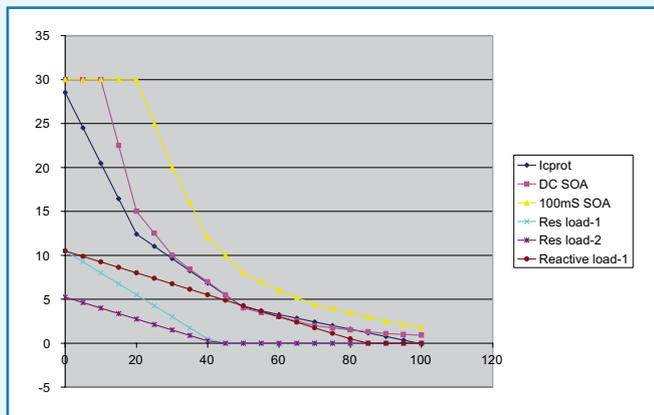
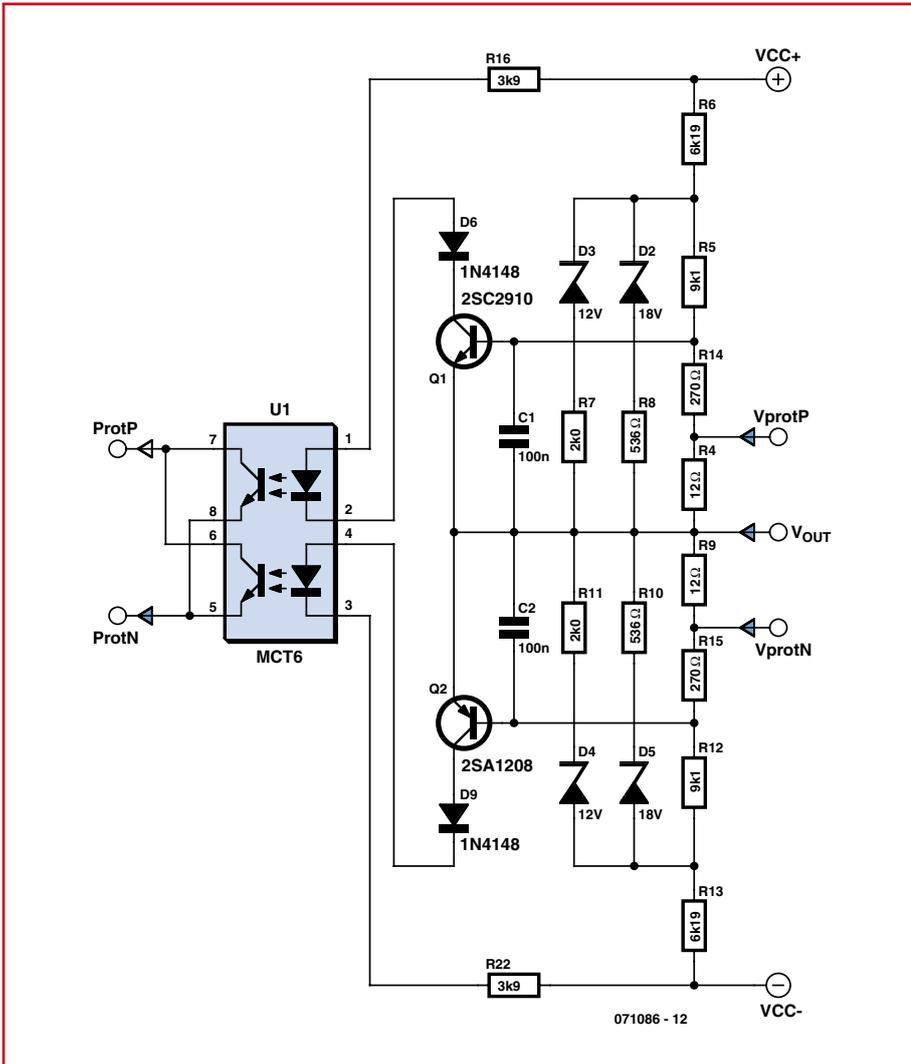

Figure 1. SOA, load lines and protection locus. See text for explanations.
Figure 2. Safe Area Protection system.
The second main part of the protection system is to guard the output devices against excessive low impedance loads and short-circuits. Michael Kiwanuka has written a very informative article on Safe Operation Protection in audio power amplifiers [1]. My own protection circuit is different, but was inspired by Mike's design and has many things in common with it. **Figure 2** shows the circuit. The circuit receives two types of information from the power amp: the I_c in the output devices through V_{protP} and V_{protN} (via connector J7 in **Figure 1**): this actually is the voltage across the emitter resistors. Secondly, through the components connected to the supply and V_{out} a voltage is developed that represents V_{ce} of the output devices. (There is a separate part to this article that explains the circuit in detail and how
Figure 1 shows the various curves that we need to develop the SOA protection for two pairs of output devices. I_c (A) is on the vertical scale, V_{ce} (V) is on the horizontal scale. When V_{ce} is zero, it means that V_{out} is equal to V_{supply} . In practice, there will always be a few volts V_{ce} remaining at maximum output, but we will disregard that for the moment. The cyan curve shows the safe combinations of DC I_c and V_{ce} for two parallel STD03 Sanken Darlington devices used in this amplifier. The yellow curve shows this for loads lasting no longer than 100 ms. That means that combinations of I_c and V_{ce} that fall below and to the left of the curve, are safe, but as soon as the curve is crossed, the protection system should activate. Since music is impulsive and not DC, one could argue that protection for the yellow curve would be sufficient, but if we use the cyan curve we have an additional safety factor and we also are protected against DC shorts.
Figure 1 also shows some load lines, which are combinations of I_c and V_{ce} required to drive a (resistive) load, assuming ± 40 V supplies. The lower one, in pink, is an 8 Ω load, the light blue one is 4 Ω . For example, in the 4 Ω case, we see that when $V_{ce} = 0$, the output voltage is the supply voltage (40 V in this case) and thus I_{out} in 4 Ω is 10 A. The brown curve is also for 4 Ω load, but now with a maximum reactive component of 90° phase shift. This is a particularly mean load. At $V_{ce} = 40$ V we are exactly between the supplies (assuming a ± 40 V supply) with $V_{out} = 0$. With $V_{ce} = 60$ V, V_{out} is actually -20 V negative but I_c is still positive (about 3 A). That means that the upper
So, we can put in a simple current limiter that follows, say, the 4 Ω complex load line. But then we cannot use the large safe area, especially at low V_{ce} and I_c between 10 A and 30 A, which may come handy with speaker loads that have low impedance dips. It is clear from Figure 1 that a simple current limiter is not enough. What we want is to 'model' the cyan DC curve in our circuit. This can be done with some non-linear circuit elements, and my target SOA protection curve is shown in dark blue. It has three inflexion points at $V_{ce} = 20$ V and $V_{ce} = 50$ V.
The way I implemented this is shown in Figure 2, which is the positive half of the full circuit given in Figure 2 of the article about the protection circuit. (The negative part works similarly and will not be discussed). There are 4 distinct points on the blue target curve. The first and last points are defined by $V_{ce} = 0$ and $I_c = 0$ respectively. The other breakpoints are at $V_{ce} = 20$ V and $V_{ce} = 50$ V. These two breakpoints are caused by diodes D3 (for 20 V/13 A) and D2 (for 50 V/5 A). Remember, all currents are for two parallel devices! At each breakpoint, the diode(s) start to conduct and shunt current away from R14 and R4, so that Q1 conducts later.
Q2, Figure 2) collector would normally be connected to the base of the (pre) driver transistor in the output stage. Q1/Q2 turns on when its V_{be} exceeds about 0.65 V, shunting driver base signal away. But in my experience, even with a V_{be} of only a few 100 mV, the protection transistor starts to influence the driver base signal, resulting in increased error correction and increased distortion.